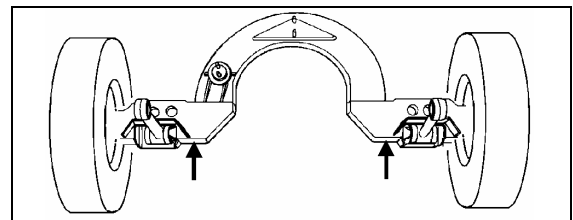

FIGURE 8: JACKING POINTS ON TAG AXLE
3. Install jacks under tag axle jacking points to support the axle weight (refer to figure 8).